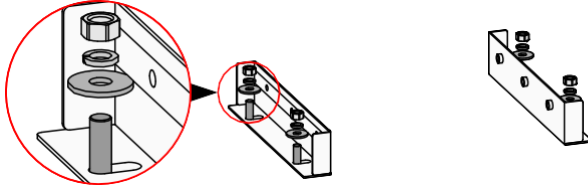

Figure3-13 Fasten the supporting plate
Step 4 Fasten the supporting plate. Put the supporting plate on the ground where has been drill the expansion bolts. Install the flat gasket($\Phi 10$), spring gasket($\Phi 10$) and bolts($\Phi 10$), then pre-screw the bolts, as shown in Figure3-13.